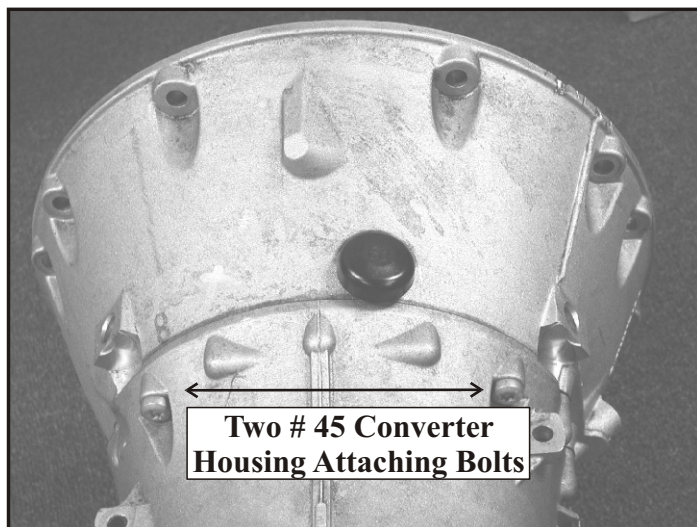

Figure 13
Begin by removing (2) # 45 Torx bolts used to attach the converter housing to the main case as shown in Figure 13. *During assembly, these bolts tighten to 14.7 ft. lbs (20 Nm.)*